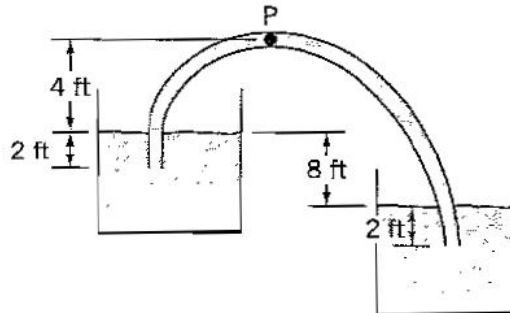

Figure P8.27:
8.27 Water at $60^\circ F$ is siphoned between two tanks as shown in Figure P8.27. The connecting tube is 2.0 in. diameter smooth plastic hose 20 ft long. Find the volume flow rate and the pressure at point P , which is 8 ft from the entrance to the tube. Ignore minor losses. (To begin, assume a friction factor, then iterate.)